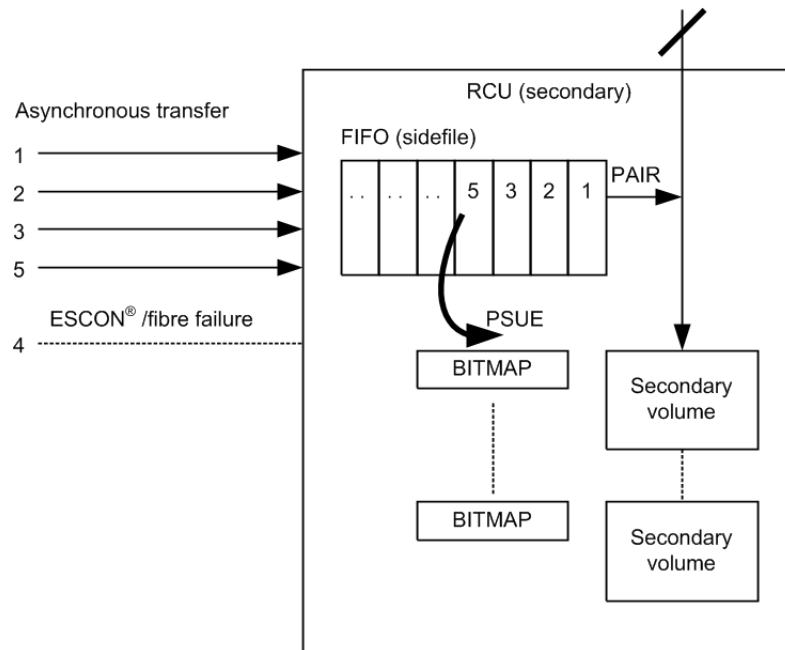

Figure 6-11 TrueCopy Async suspension condition
In the case of an ESCON or fibre-channel (FC) failure, the S-VOL FIFO queue is missing a data block that was transferred from the P-VOL FIFO queue. The RCU waits to store the next sequenced data block in the S-VOL FIFO queue until the TrueCopy Async copy pending timeout occurs (defined using TrueCopy). In addition, the timeout value can be specified at Device Manager - Storage Navigator. The default value is set to 5 minutes. If the timeout occurs during this waiting state, the pair status changes from PAIR to PSUE, and non-sequenced data blocks are managed by the S-VOL bitmap. The missing data block can be recovered using the `pairresync` command, which merges the S-VOL bitmap with the P-VOL bitmap. Figure 6-11 TrueCopy Async suspension condition on page 6-30 shows this situation on the secondary side.